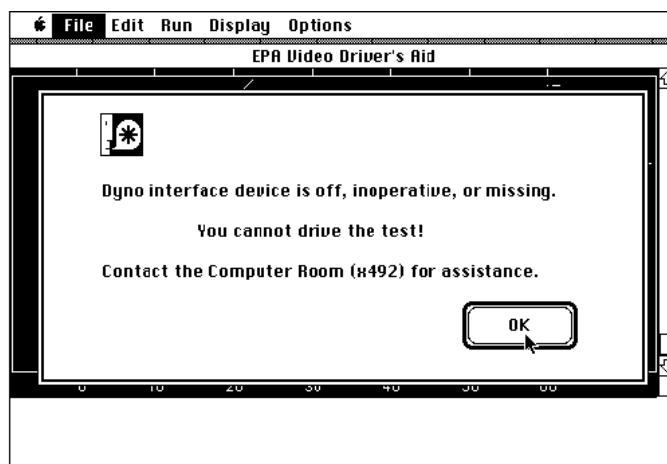

Figure 14
- 14.0 If the warning “Dyno interface device is off, inoperative, or missing” appears on the screen, contact the Computer Room for assistance. See Figure 14.